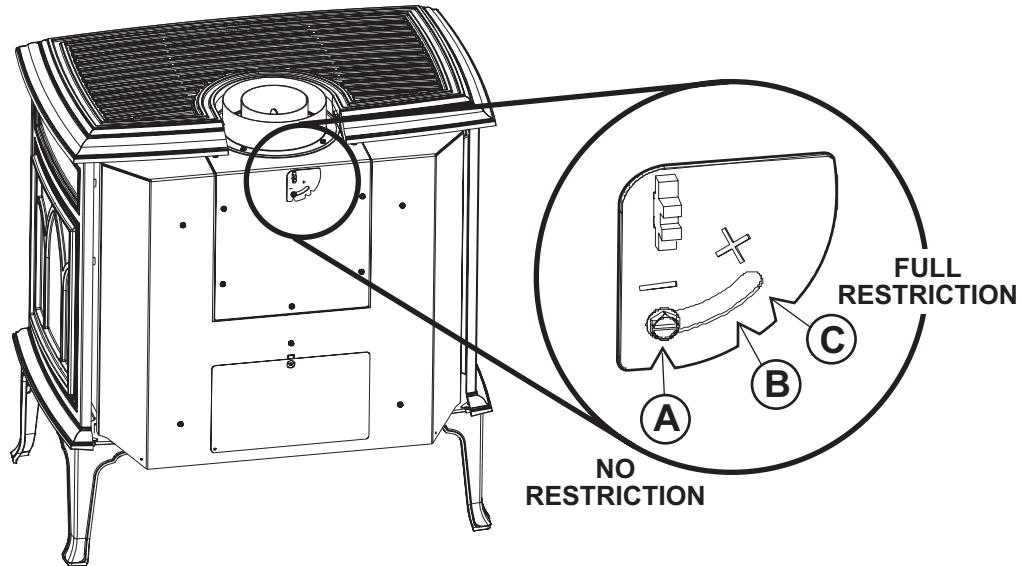
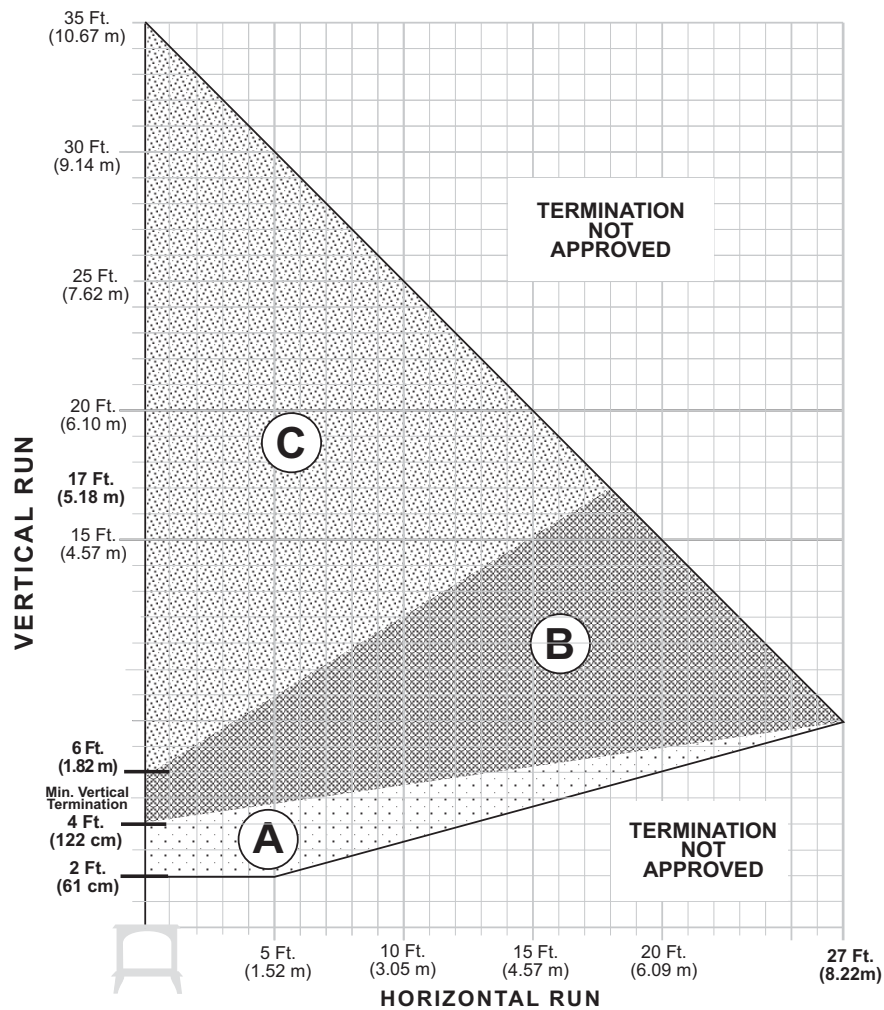

Figure 14. Use 1/4" socket driver to loosen the Exhaust Restrictor dial and adjust to the appropriate notch for your termination zone.
Figure 15. Vent Termination Zone Matrix - NG / LP
The Exhaust Restrictor is an adjustable plate located within the firebox exhaust outlet. It is adjusted by rotating the dial at the back of the stove within a range from the factory-set, fully open position (no restriction) to a fully restricted position. See Fig. 14. The Minus and Plus signs on the dial relate to degrees of restriction, from zero to approximately 70%. The three lettered positions correlate to the termination zones (A,B,C) diagrammed in figure 15. Use the diagram to determine the degree of restriction and shutter setting you should use.
3. Locate the restrictor adjustment dial on the top of the exhaust outlet. Use a 1/4" nut driver to loosen the lock nut and pivot the dial to the position appropriate to your termination zone. See figs. 14 and 15.
The circled letter designations in the vent matrix in figure 15 correspond to the Exhaust Restrictor dial settings on the stove. First, determine which vent termination zone is appropriate for your installation, then adjust the restrictor to the corresponding position as shown in figure 15.
- The termination should fall within the shaded areas of the grids depicted in the Vent Matrix, fig. 15, page 11.
- Any horizontal termination must fall within the shaded portion of the vent window matrix shown in fig. 15.